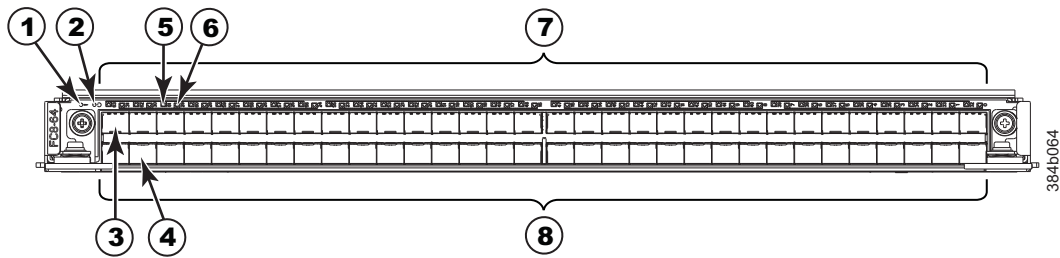

Figure 57. FC8-64 port blade
- Figure 57 on page 143 shows an FC8-64 port blade